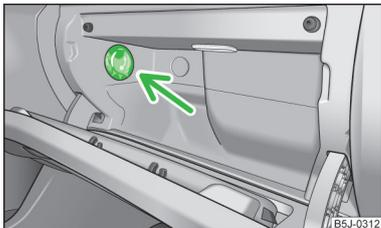

Fig. 84
- Use the rotary switch » Fig. 84 to open and close the air supply.